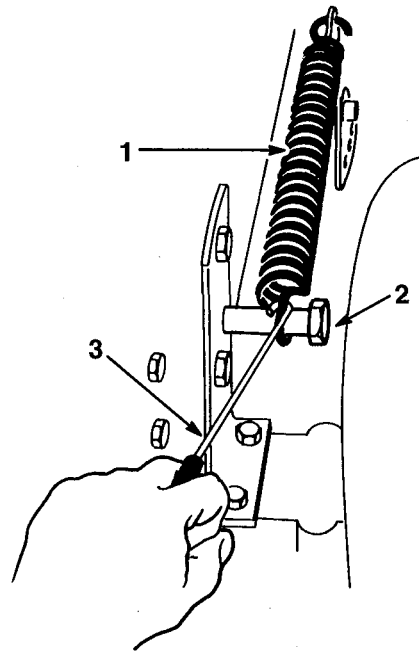

Figure 47
11. Hook the height-of-cut lift assist spring onto the retaining bolt (Fig. 47), using the spring tool provided with the machine.